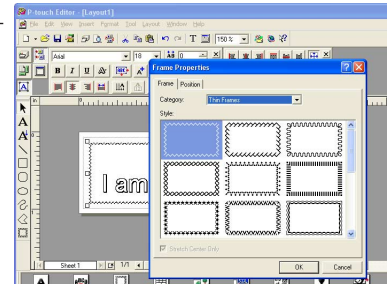

figure 19
- 4 With the Select tool, double-click inside the frame to display the Frame Properties dialog box (see figure 19).